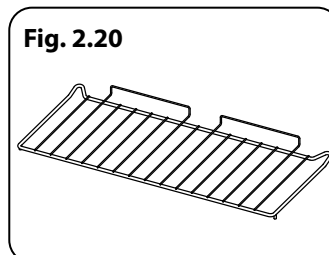

Fig. 2.20
- Two full capacity shelves (**Fig. 2.20**)